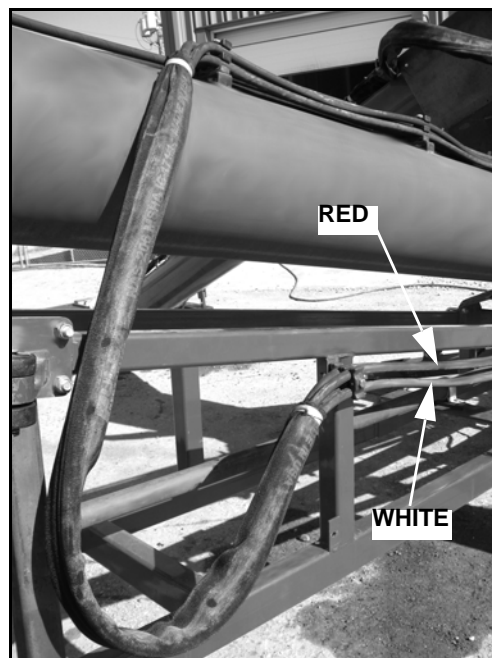

Figure 3.67
- Continue to run hoses up flex tube and down flex frame and secure to hose holders as shown in Figure 3.67. Leave 6" (15.2 cm) between the hose sleeve and plastic clamps. Assemble hoses into clamp as on top so that the colors match the same stacking pattern as shown in Figure 3.66.